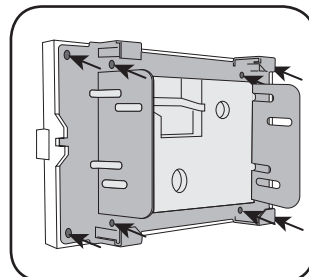

Fig. 1.18
- Mount the radio bracket to the back of the VW1 bezel using the (4) four supplied Phillips screws. Secure the screen to the bracket using the hardware provided with the Pioneer radio. (Fig. 1.18)